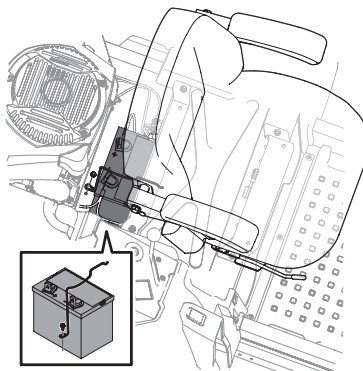

Figure 4-7
2. Remove the hex washer screw securing the battery hold-down bracket to the frame. Then flip the battery hold-down bracket up to free the battery. See Figure 4-7